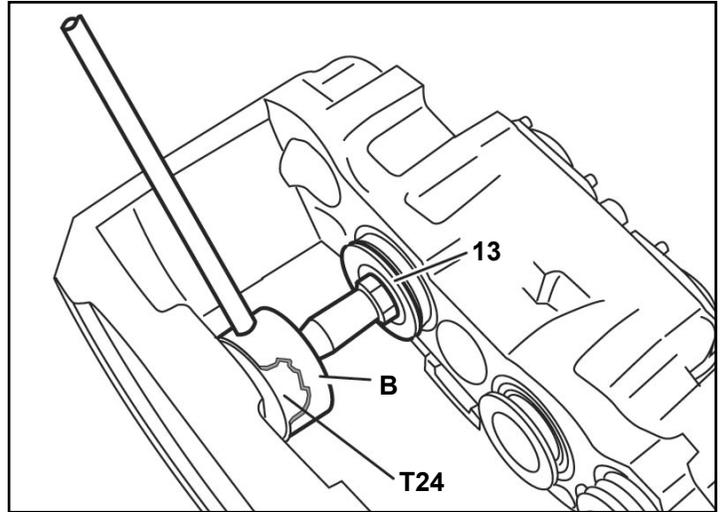

FIGURE 15 - OFF VEHICLE - USE OF EXTRA TOOL FOR SOME STYLES
Note: When installing the tappet for Bendix® ADB 22X™, ADB 225™, and SK7™ disc brakes, use the supplemental ring (T24), inserted into the tool (T2) - see Figure 15 - to assist the installation, since the caliper's back plate is too thin using only Tool (B) to achieve the correct position.